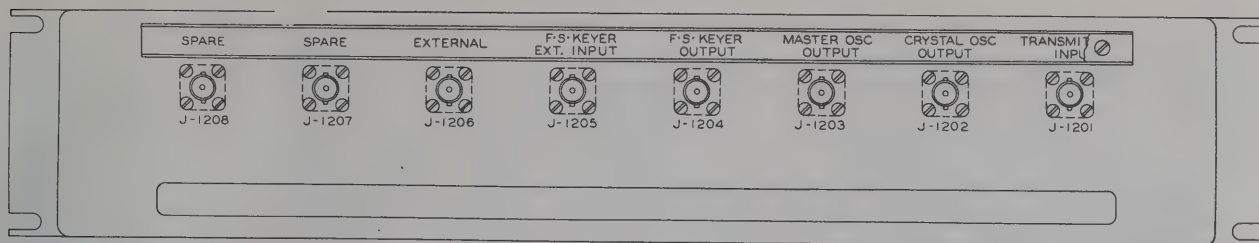

Figure 18. Patch Panel.
- (8) *Patch Panel.* This patch panel (fig. 18) is used for connecting the various exciter to-